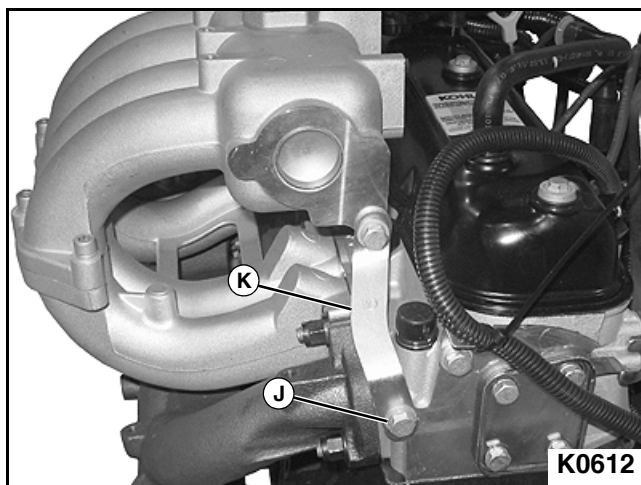

Figure 3-74
6. Install rear intake manifold-to-cylinder head mounting bracket bolt, flat washer, and lock washer (J) to manifold-to-cylinder head mounting bracket (K). Tighten bolt. **See Figure 3-74.**